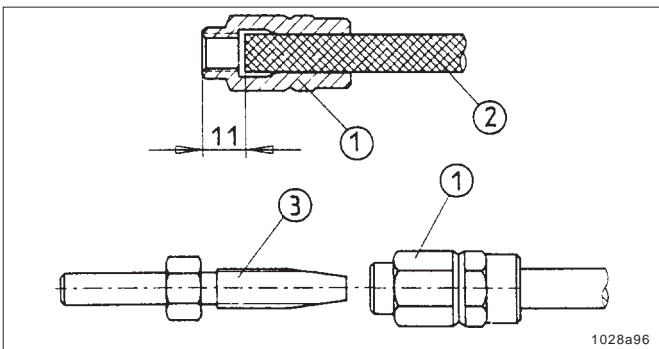

Fig. 40 -Preassembly of the threaded sleeves and hose studs on the high - pressure plastic hose
- Screw the threaded sleeve (item 1 Fig. 40) counterclockwise onto the high-pressure plastic hose (2) until the illustrated dimension of 11 mm is reached. Then screw the hose stud (3) into the threaded sleeve (1).